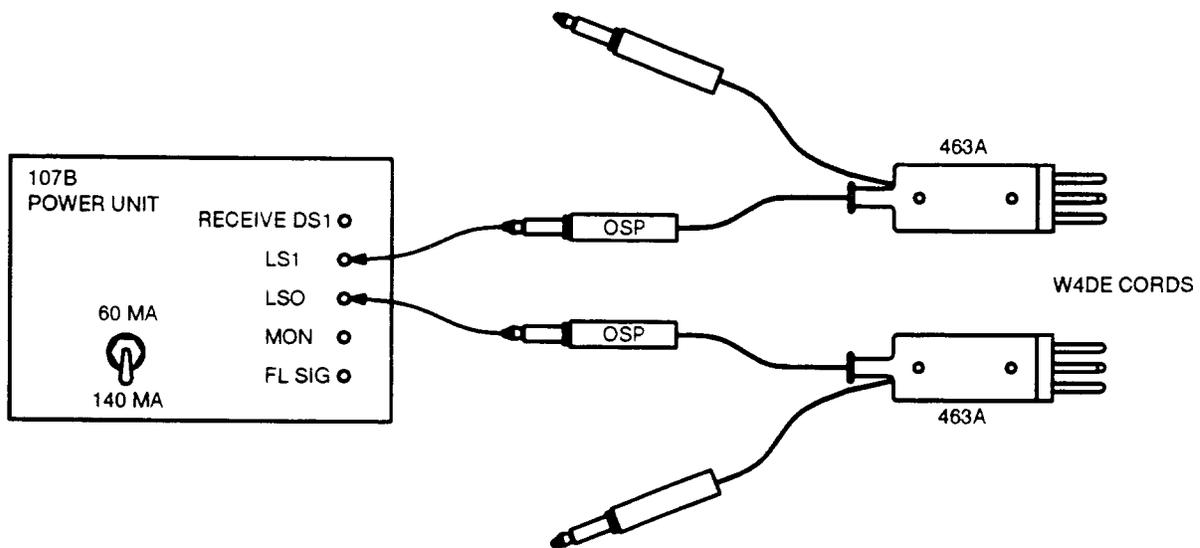

Figure 5 — Fault-Locating Equipment Connections to Test W4DE Cords for T1 Line Access
Comment: For Bulk Power cabinets you may need to make this connection as shown in Figure 5.
8. Make connections from 107B test set (315D, 415A-2, 25AD) to W4DE test cords. (See Figure 5.)